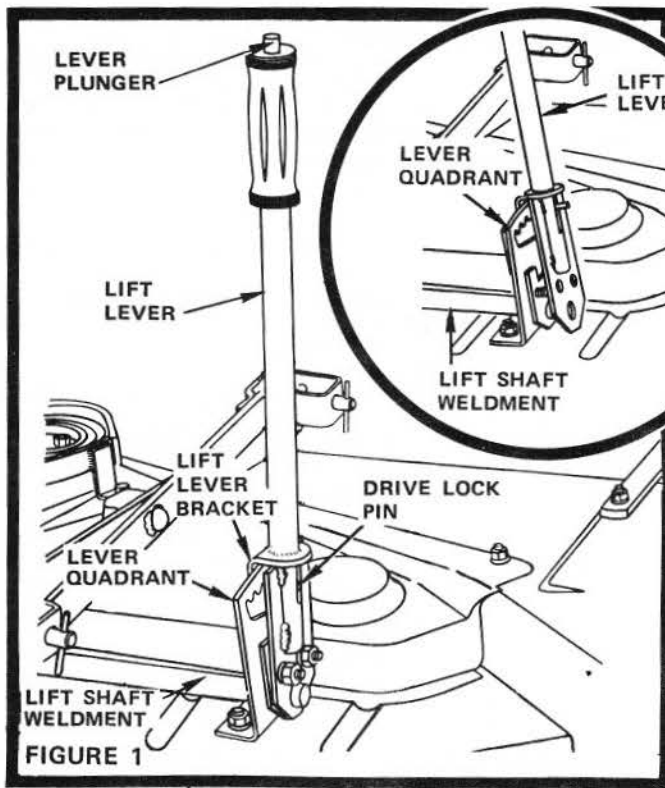

FIGURE 1
- a. Place Lift Lever (Fig. 1) over Lever Quadrant and tilt bottom of Lever outward to align Bolts in Lift Shaft Weldment with holes in Lever.
- b. Install Lift Lever to end of Lift Shaft Weldment (Fig. 1). Be sure Lift Lever Bracket straddles Lever Quadrant and that Lever fits on end of Lift Shaft. Secure with Flat Washers, Lockwashers and Hex Nuts. Tighten Nuts securely.